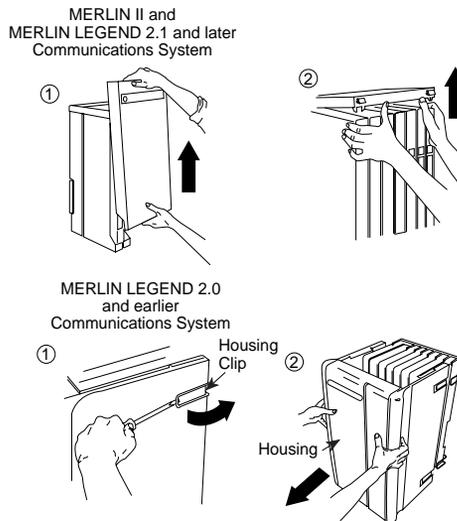

Figure 1-5. Removing the Control Unit Housing
To remove the control unit's housing, see Figure 1-5.
1. Pull the bottom front of the housing towards you. When it releases, remove it by lifting up as shown in Figure 1-5.